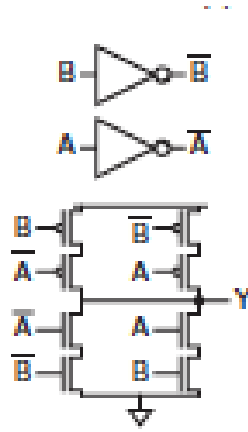

Figure 9: The straight-forward implementation of the 2-input XOR gate.
- b) The circuit diagram can be seen in Figure 9. The most obvious advantage of the solution in a) is that is as fewer transistors and no need for the inverses of A and B.